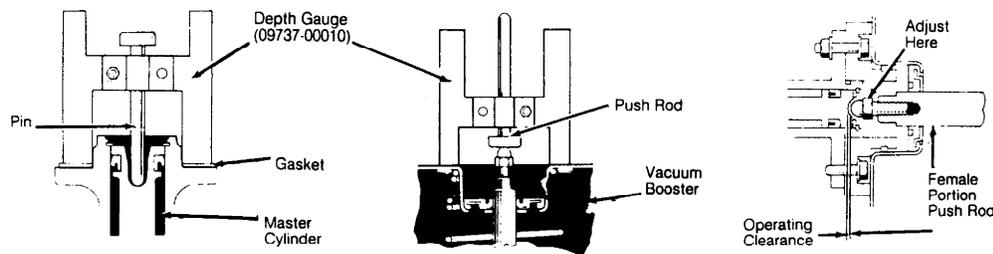

Fig. 8: Measuring Clearance Between Master Cylinder & Power Assist Servo
1) Check and adjust clearance between power assist servo push rod and master cylinder piston if either unit is replaced or overhauled. See Fig. 8. Clearance between push rod of power assist servo and pin head of depth gauge must be zero.